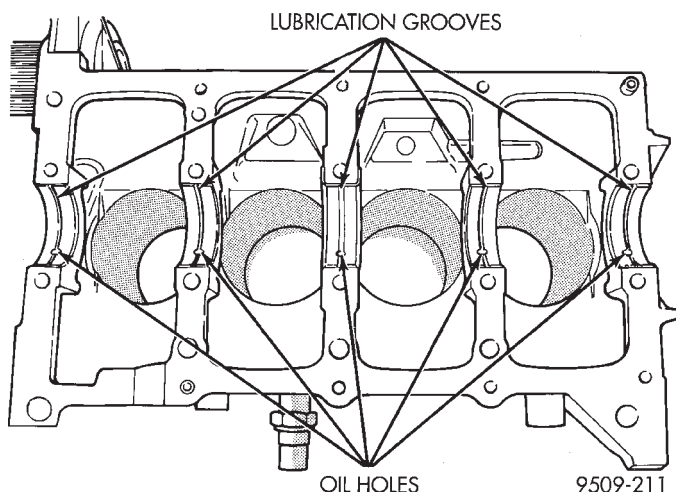

Fig. 74 Installing Main Bearing Upper Shell
(1) Install the main bearing shells with the lubrication groove in the cylinder block (Fig. 74).
(2) Make certain oil holes in block line up with oil hole in bearings and bearing tabs seat in the block tab slots.